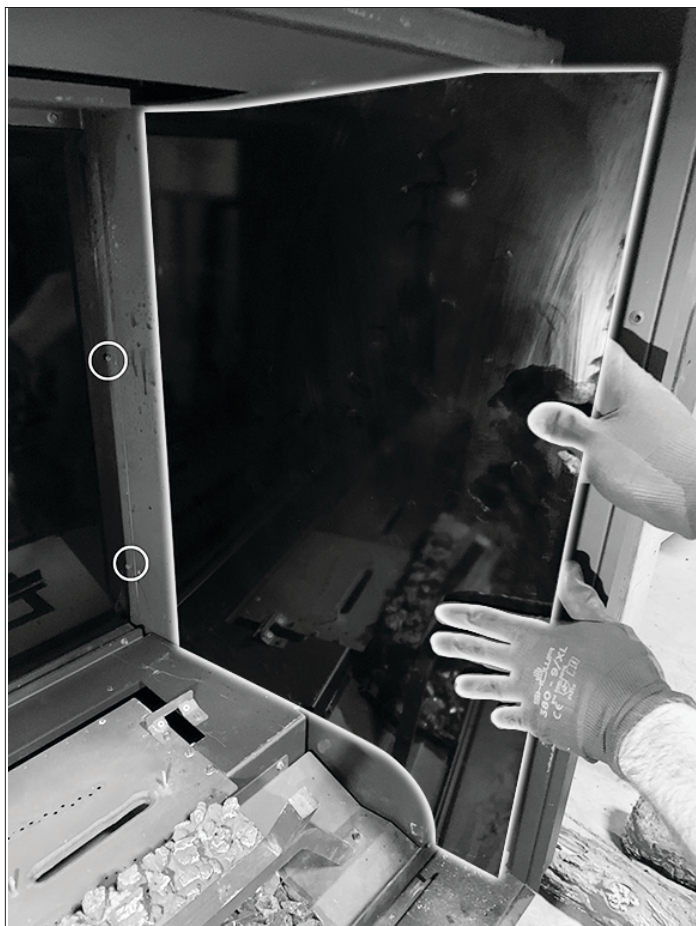

Figure 8.5, Side Black Glass Panels Installed
2. Install side black glass panels. Carefully slide the panel on the main log support until you reach the screws at the back of firebox as shown in Figure 8.5. Use your hand to carefully pull the rear of the side panel around the screws.